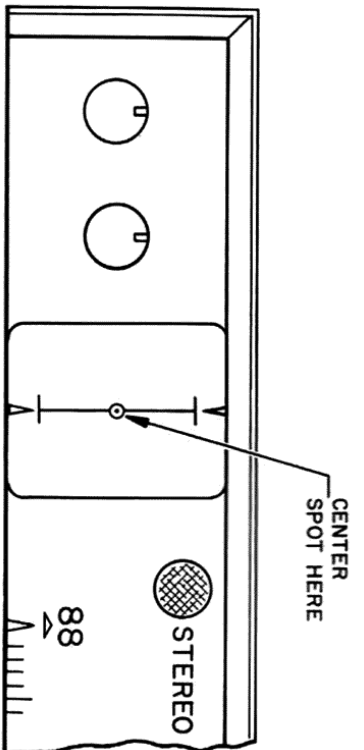

Figure 4. CRT Centering
**Step 2.** Adjust the **CENTERING** controls to bring the dot into the center of the small circle (as illustrated in Figure 4).